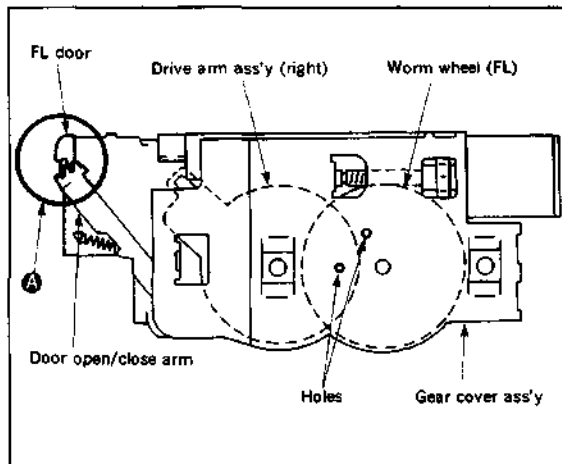

Fig. 3-6.
**[Precautions on remounting] (Figs. 3-6 and 3-7.)**
- When mounting the gear cover ass'y, match up the two holes on the gear cover ass'y with the two holes on the worm wheel (FL) and then with the hole on the right drive arm ass'y.